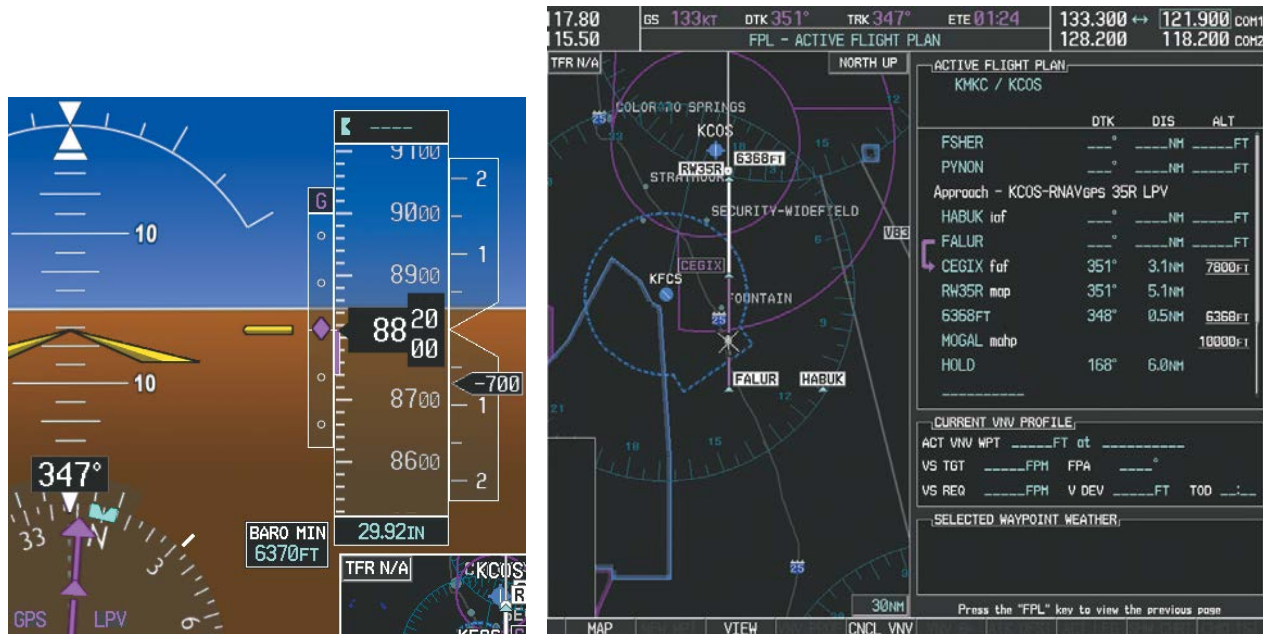

Figure 5-146 Descending to the FAF
- 23) After crossing FALUR the next waypoint is the FAF. The flight phase changes to LPV on the HSI indicating the current phase of flight is in Approach Mode and the approach type is LPV. CDI scaling changes accordingly and is used much like a localizer when flying an ILS approach. The RVSI is no longer displayed and the VDI changes to the Glidepath Indicator (as shown in Figure 5-146) when the final approach course becomes active.
The descent continues through the FAF (CEGIX) using the Glidepath Indicator, as one would use a glideslope indicator, to obtain an altitude "AT" 7,800 feet at the FAF. Note the altitude restriction lines over and under (At) the altitude in the 'ALT' field in Figure 5-146.